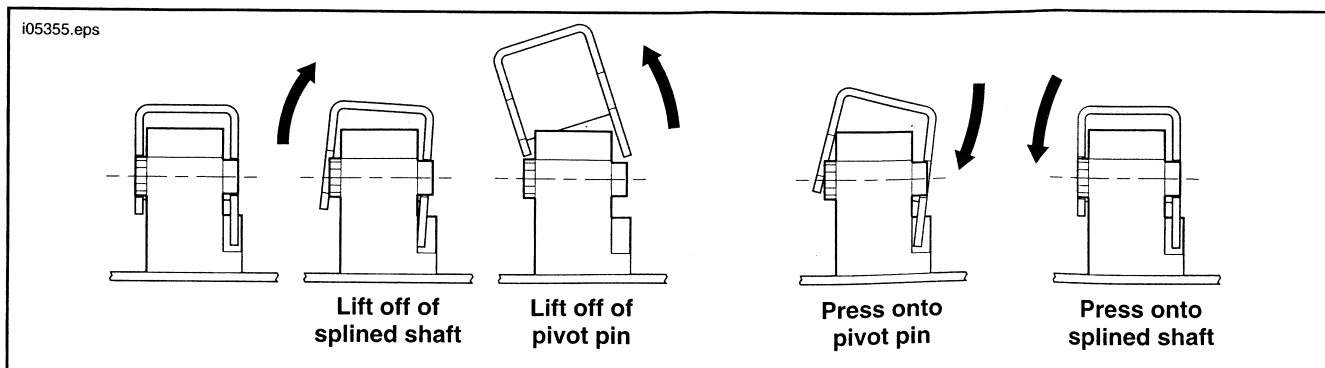

Figure 1. Upper Housing Switch Cap Removal and Replacement
- b. Using a thin blade screwdriver, carefully pry the stock black switch cap up off the splined actuator shaft on the left side of the switch (see Figure 1).